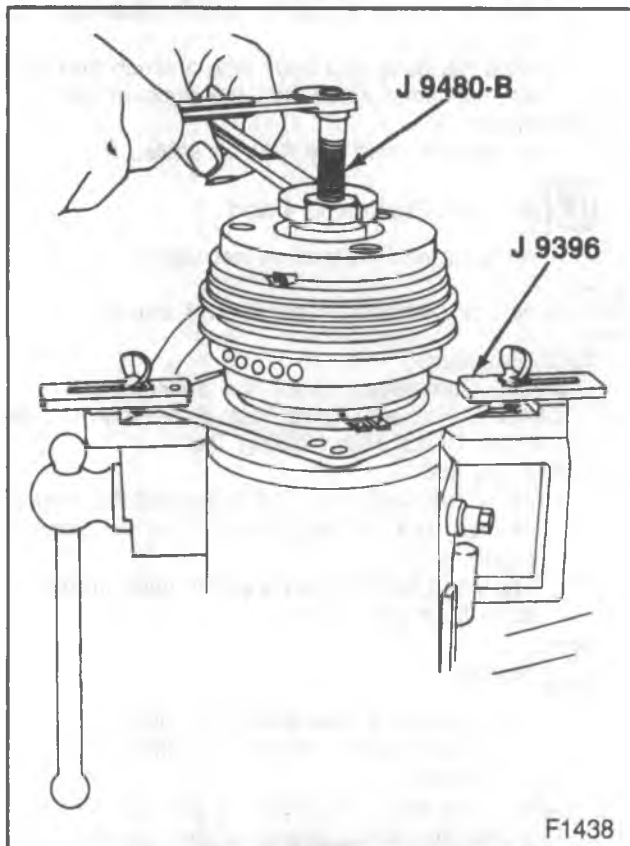

Figure 5—Installing the Drive Plate
- Install J 9480-B on the threaded end of the shaft (figure 5).
- Back off J 9480-B body to allow the center screw to be threaded against the end of the compressor shaft (39).
- Hold the center screw with a wrench and tighten the hex portion of J 9480-B body while pressing the hub onto the shaft (39). After tightening the body several turns, remove J 9480-B and check that the shaft key (36) is properly in place in the keyway.
- Air gap between contact surfaces of the clutch plate and hub assembly (2) and the pulley (6) should be 0.56-1.34 mm (0.022-0.057-inch).